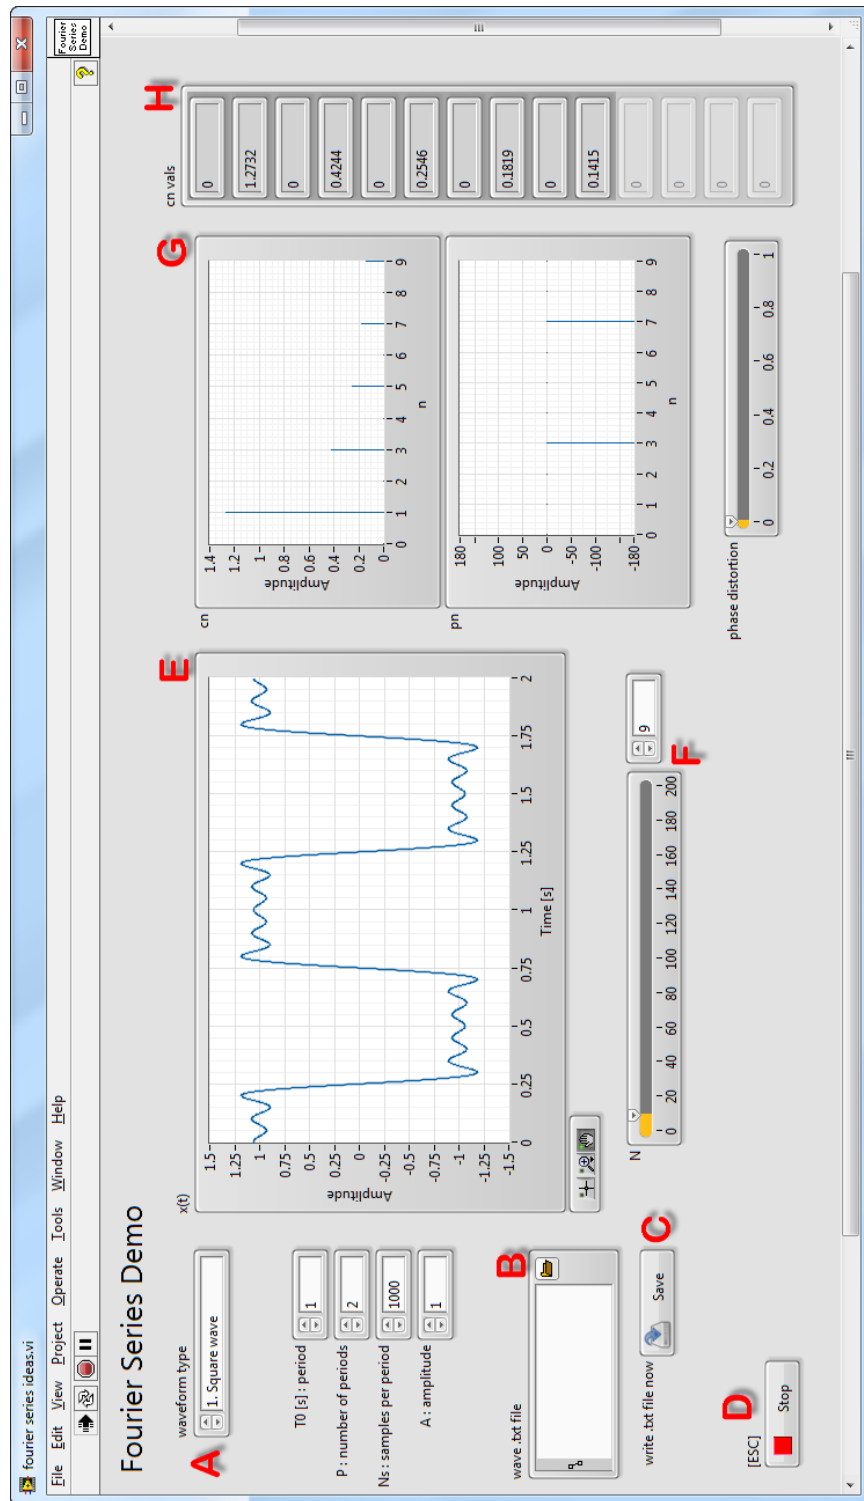

Figure 5.1: Front panel of the Fourier series demonstrator application.
Figure 5.1 on page 50 shows the front panel of the Fourier series demonstrator LabVIEW application you will create in this project. The application
► Read through these construction tips for the front panel and then refer back to this step as needed while you construct the application; each tip refers to the letter indicator on Figure 5.1 on page 50:
► Create the front panel and block diagram as pictured in Figures 5.1 on page 50 and 5.2 on page 51.
Experiment with your Fourier series demonstrator application to gain experience with the following concepts. Set the front panel control values to match those pictured in Figure 5.1 on page 50.
- ▶ Set up your Fourier series demonstrator front panel controls to match those pictured in Figure 5.1 on page 50.